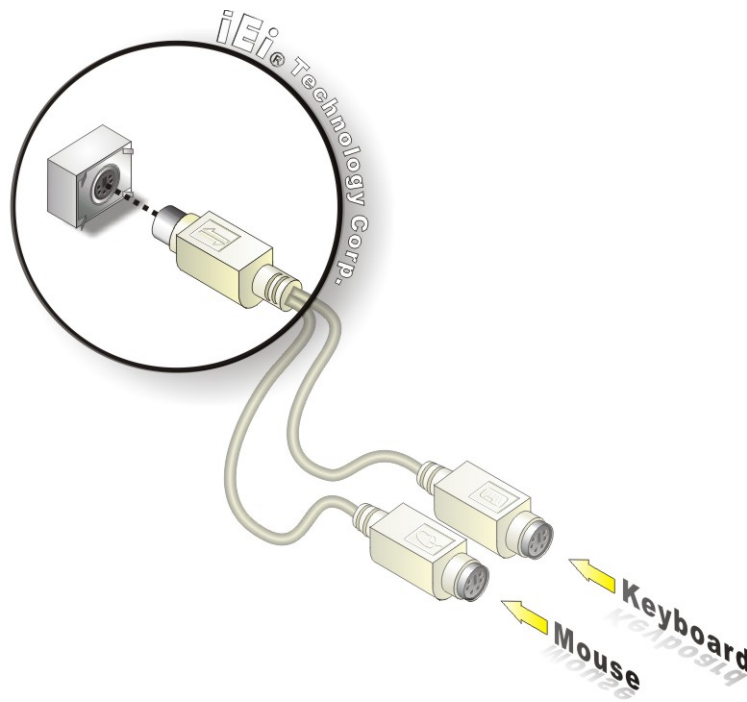

Figure 4-19: PS/2 Keyboard/Mouse Connector
Step 2: Insert the keyboard/mouse connector. Insert the PS/2 connector on the end of the PS/2 y-cable into the external PS/2 connector. See Figure 4-19.